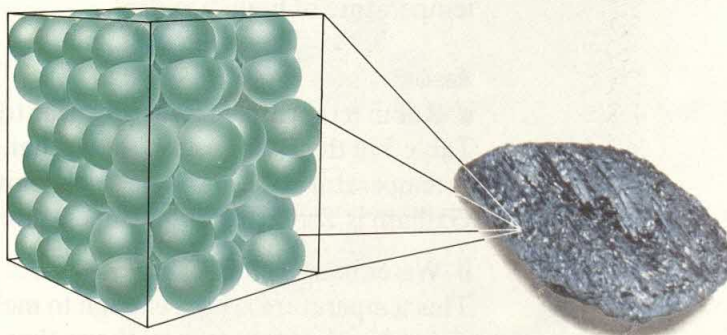

Figure 5.17
- 10** Figure 5.17 shows the structure of iodine which is molecular.